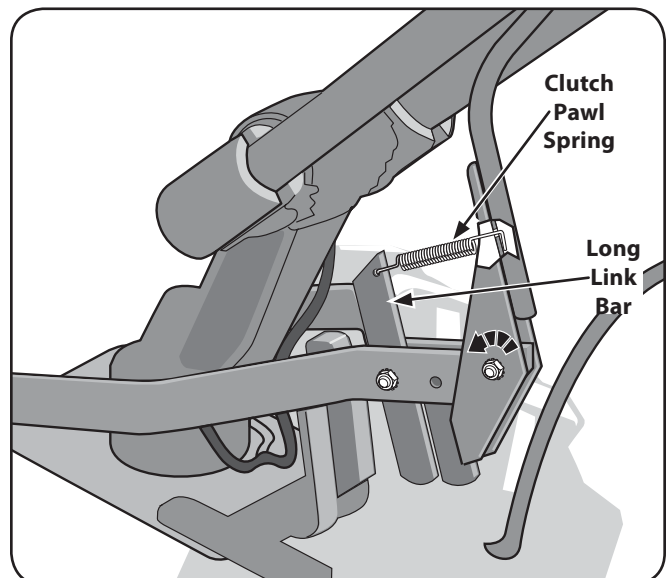

Figure 3-9
5. Retrieve the clutch pawl spring from hardware bag. Remove the temporary screw from the forward holes inserted in Step 3 and move the Wheels/Tines/PTO Lever fully forward. Install the wider hook end of the clutch pawl spring down into the small hole at the end of the handle. Use pliers to insert the other end into the hole in the long link bar. See Fig. 3-9.